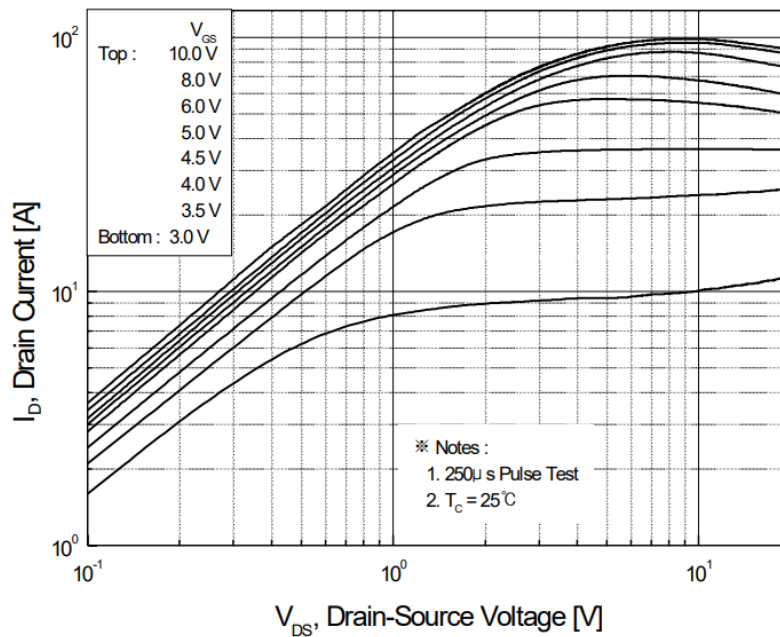

Figure 6: On-state characteristics of MOSFET
Figure 6, and according to this figure, what relationship can you find between  $I_D$  vs  $V_{DS}$  with same  $V_{GS}$ , also  $I_D$  vs  $V_{GS}$  with same  $V_{DS}$ ?(Just a qualitative description is enough.)
**Question5:** Run the simulation, and there will be 6 curves show on the same graph. Take a screenshot of this graph and attach it on the last page of your prelab. Compare it with Figure 6, are they similar to each other or totally different?